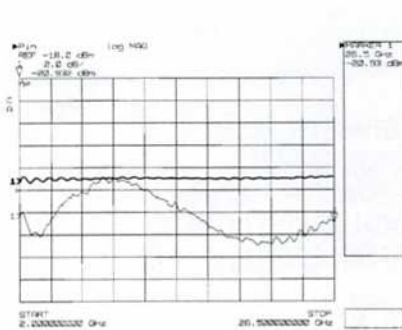

Figure 10.
1. Configure the system as shown in Figure 10. Connect the HP 437B power meter to the system bus of the HP 8510C. Zero and calibrate the power meter. Verify that the address of the power meter matches the setting in the network analyzer. The default address for the HP 437B is 13.